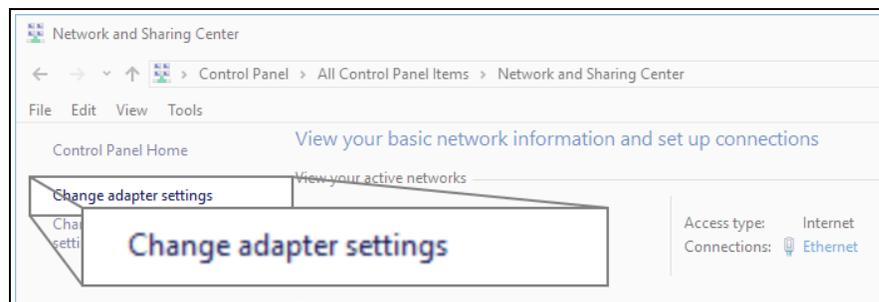

Figure 103: Change Adapter Settings Link
4. Click the **Change Adapter Settings** link. Figure 103